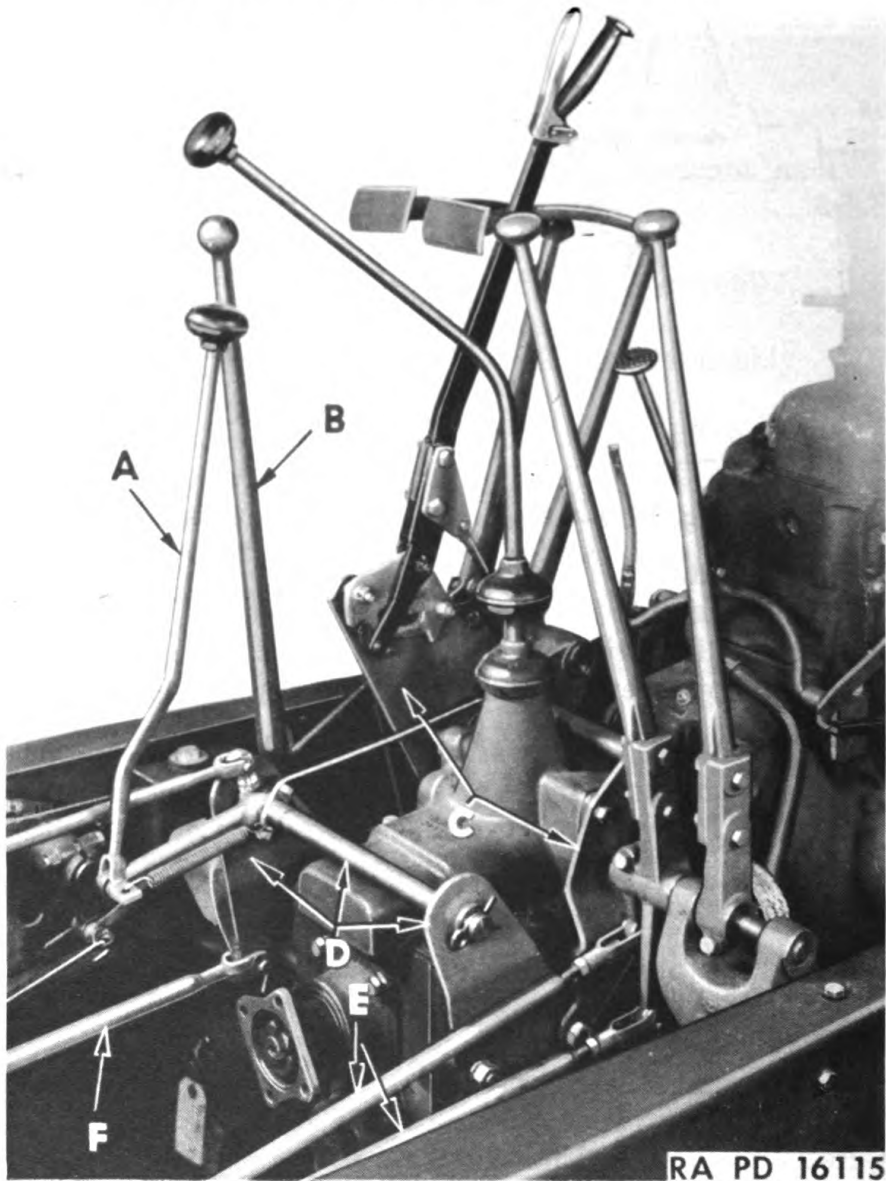

Fig. 182—Transmission Installation
b. Removal Procedure (Fig. 182)
(1) Drain transmission